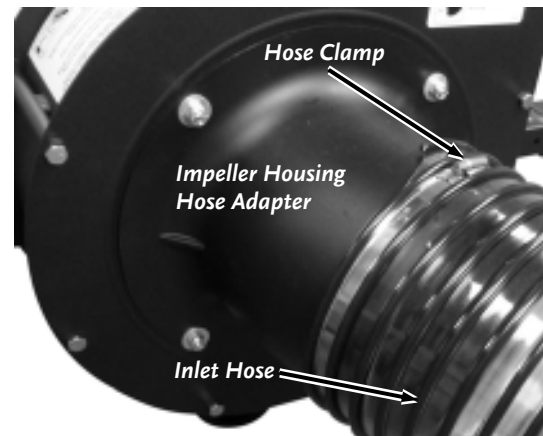

Figure 58
- b. Loosen the Hose Clamp that secures the Inlet Hose to the Impeller Housing with a Flat Head Screwdriver or 9/32" Wrench and pull the Hose from the Housing (**Figure 58**).